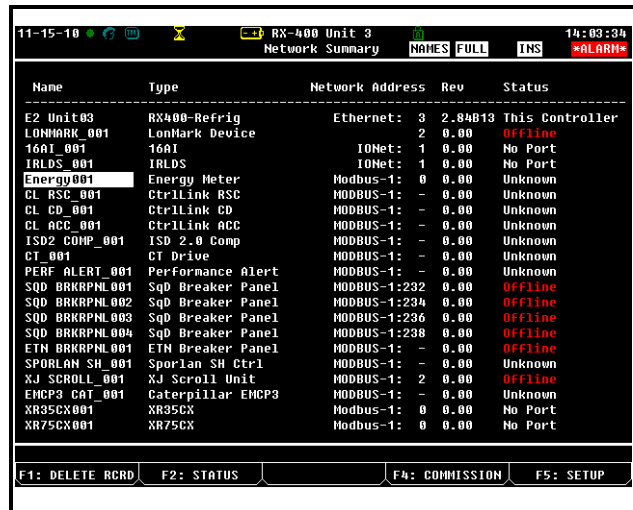

Figure 6-4 - Network Summary Screen
10. When finished, press **)** to return to the Network Setup menu, then press **1** - **Network Summary** (**Figure 6-4**). Locate the Energy Meters you set up, and look at each device's status in the **Status** field. You will see one of the following messages: